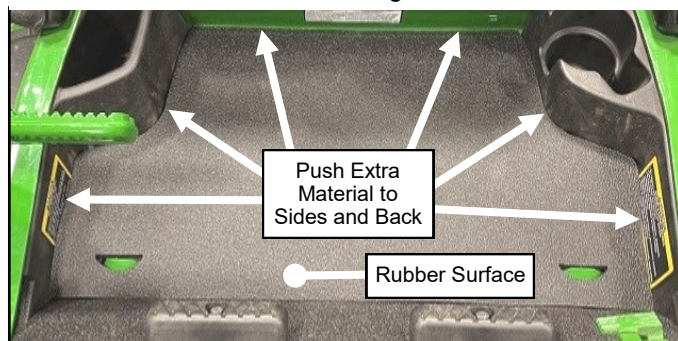

Fig. 1.17 (Install Footrest Floormat)
1.17 Install the footrest floormat making sure the rubber is on the top surface (foam on bottom). Push the extra material into the back edge and sides to fully seal the floorboard. See Fig. 1.17.